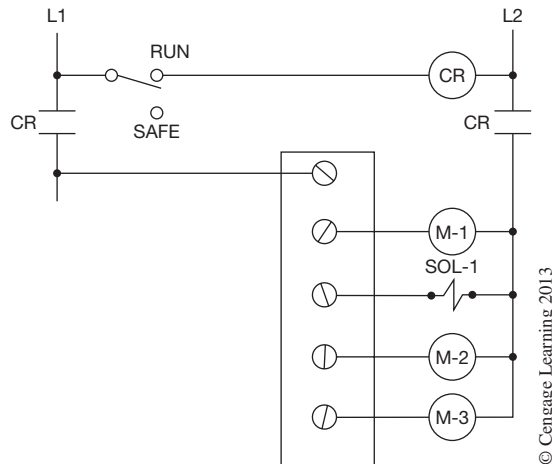

Figure 10–6 Safety Circuit
Figure 10–6 shows how a control relay (CR) and *safe-run switch* is added to interrupt L1 and L2 to the discrete output devices of an automatic machine or process.